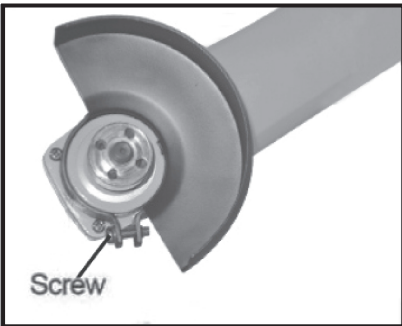

Fig 2
2. ADJUSTING THE WHEEL GUARD (see fig 2)